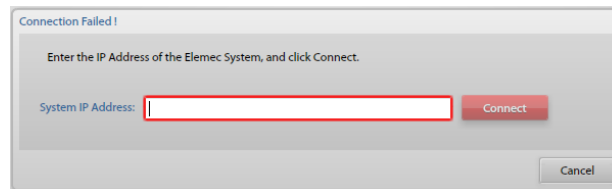

Figure 9. Manual Connection Screen
2. Enter the IP address or host name of the E3 system and click **CONNECT** (see Figure 9).